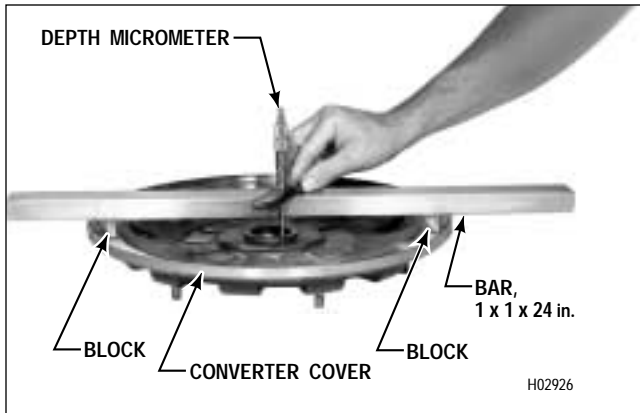

Figure 6-13. Measuring Dimension A for Selection of Converter Spacer (AT 543)
The measurements made in Steps (20) through (23) require that the gauge bar and blocks used (Figure 6-13 through 6-16) be straight and smooth and have parallel sides. The actual thickness of the bar and height of blocks are immaterial, but the blocks, as pairs, must be of equal height.
(20) Position a bar and two blocks as shown in Figure 6-13. Using a depth micrometer, measure the distance from the top of the bar to the machined surface of the converter cover hub. Record this Dimension as **A**.